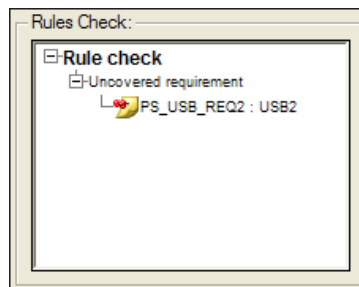

Figure 3-8. Rules Check Section of the Management View
18. Expand the elements of the **Rules Check** section of the Management View, as shown in Figure 3-8. The Rules Check section contains a summary of the rules flagged from analyzing the project. For this project, the section indicates that the PS_USB_REQ2 requirement is uncovered.